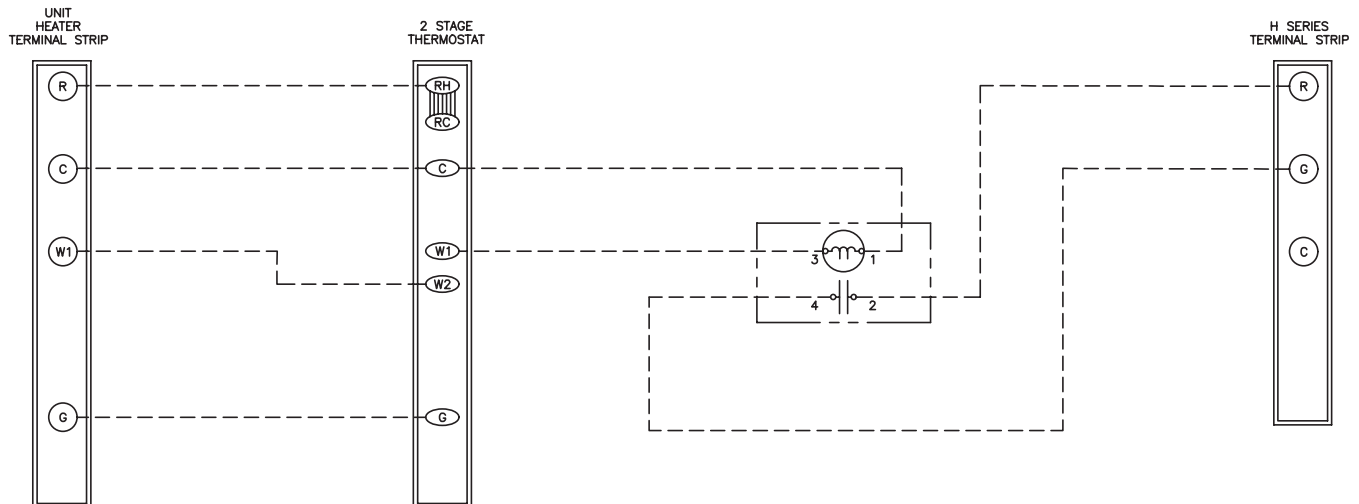

Figure 8. Heater and Destratification Fan Wiring Diagram
- If the installation features a heater and an H series Huracan™ destratification fan controlled by a single two-stage thermostat, ensure that the wiring is in accordance with the wiring diagram shown in Figure 8.